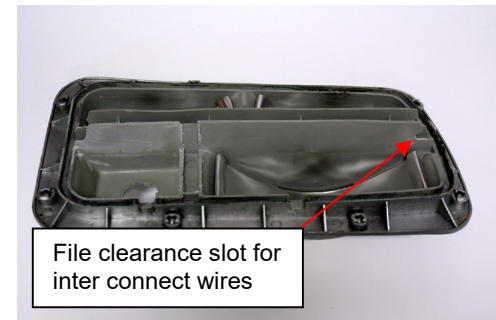

Figure 3
- 3.3. Using a 1/4" rattail file, file a 1/4" deep slot into the plastic bulkheads separating the upper and lower light chambers at the lower outboard corner. (See Figure 3)